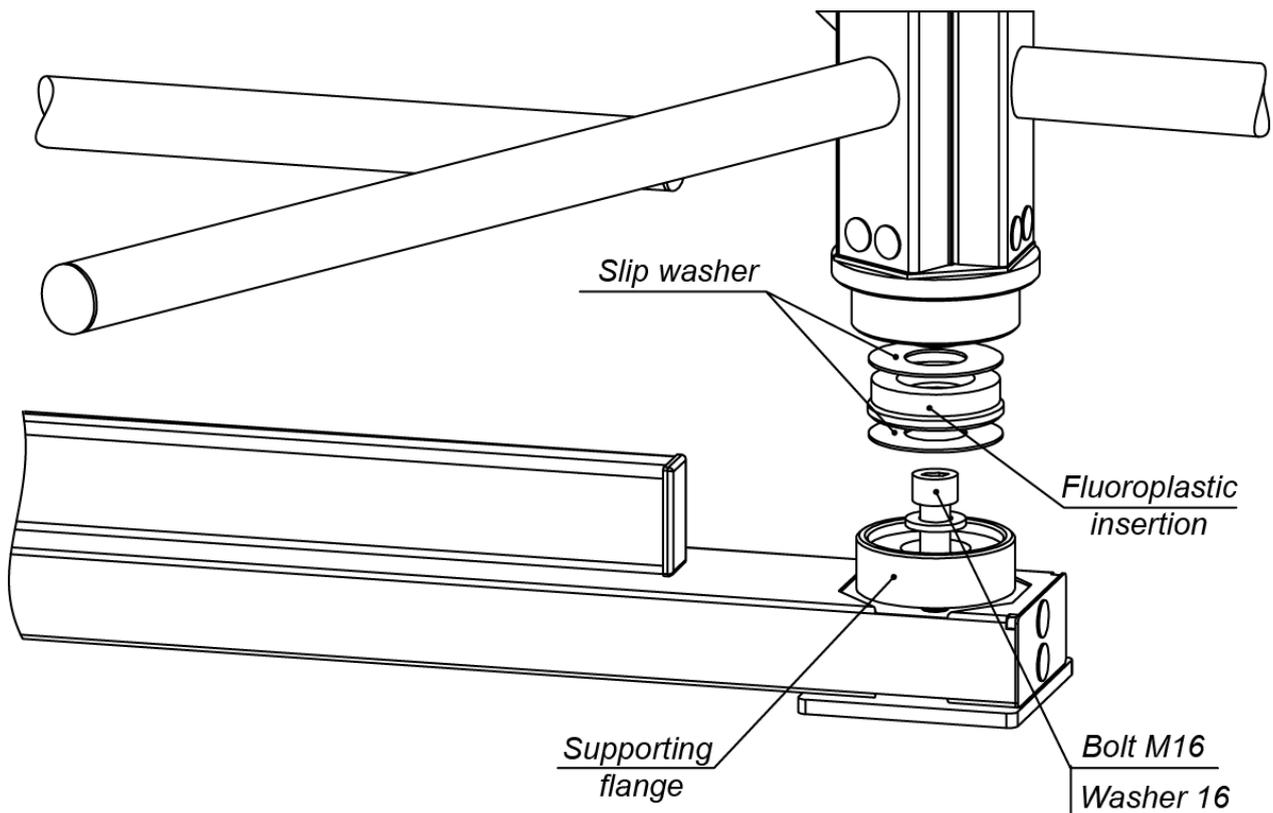
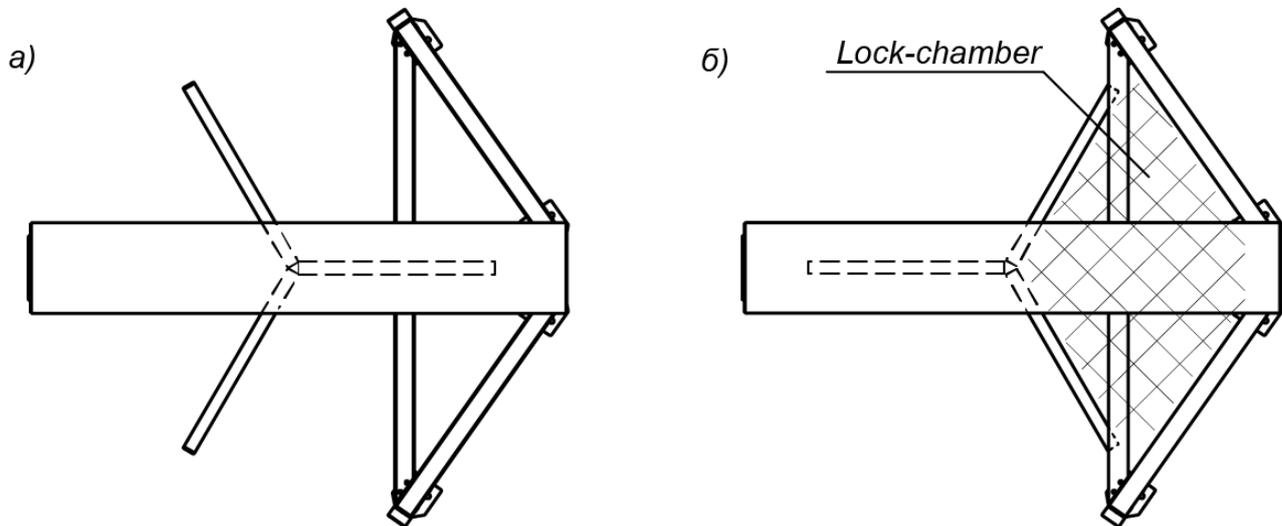

Figure 14. Bottom rotation unit (3)
Figure 22. Home position of the turnstile wing panels (the view from above):
- Insert the supporting flange of the rotation unit in the place of installation of the bottom rotation unit (see Fig.14). Fix the flange and the barrier section with barrier arms on the mounting surface with M16×60 anchor bolts.
12. Unpack the top channel (8) with the cover (9) (box №1).
13. Assemble the top channel (8) (performed by 2 persons minimum!):
- Take off the cover (9) from the top channel (as indicated in Sect. 6).
14. Unpack rotor sections (1) (box №2).
15. Assemble rotor (1) (performed by 2 persons minimum):
- Assemble the bottom bearing rotation unit (3) in the barrier section (5). (Fig. 14). Two slip washers and the fluoroplastic insertion placed between them must be situated in the assembly unit avoiding any misalignment and rest on the entire bearing surface symmetrically in respect to the rotor axis. Herewith, the smooth surfaces of slip washers must be directed at the insertion. The slipping surfaces may be treated with lubrication used for homokinetic joints.
- Use cylindrical shank to install the rotor section and its mounting parts in the bottom rotation unit (3), first bring it into the unit at a slight angle to the surface, then turn it into the vertical position.
- Adjust the rotor section in accordance to the selected passage mode (Sect. 8.6, Fig. 22) given the match of the edges of upper rotor shaft and the edges of drive shaft.